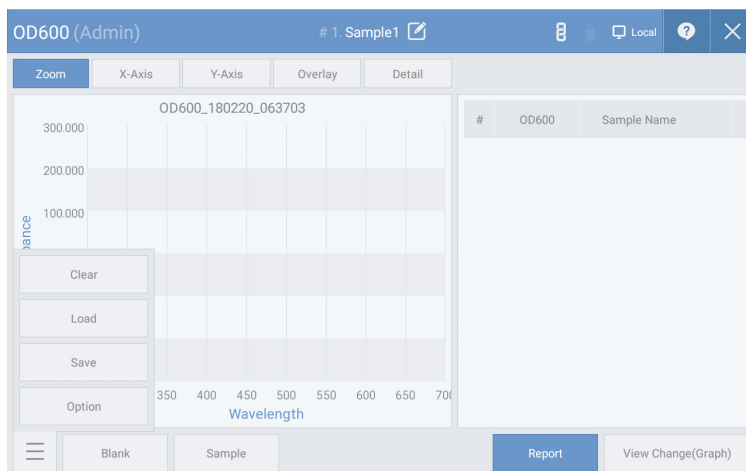

Fig. 3.6
1. Click the “Settings” button in [Fig. 3.6] to set the measurement environment.
2. Load the blank sample and click “Blank” shown in [Fig. 3.6] to measure the zero point.
4. Load the sample and click the “Sample” button shown in [Fig. 3.6] to begin measurement.